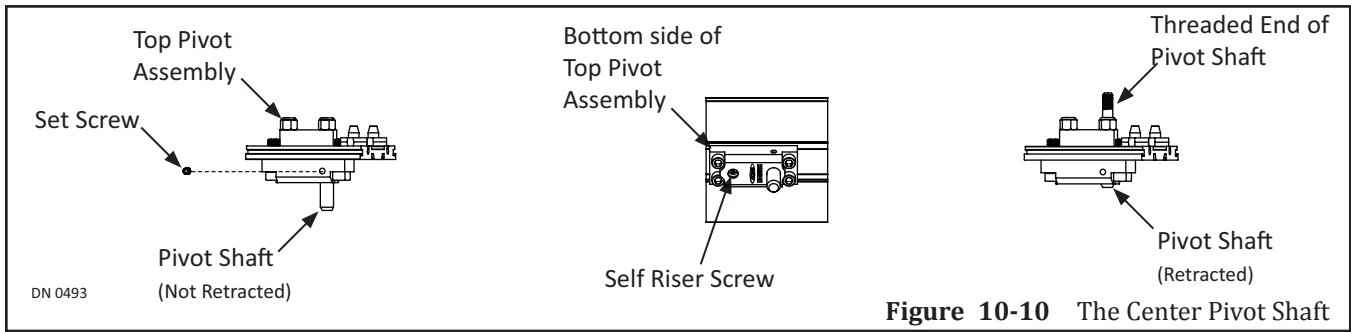

Figure 10-10 The Center Pivot Shaft
2. Loosen the Set Screw located directly above the Pivot Shaft. Please see Figure 10-10.
6. Go to the top Door Rail. Turn the Self Riser Screw clockwise to insert the Pivot Shaft into the Bearing. Please see Figure 10-10.